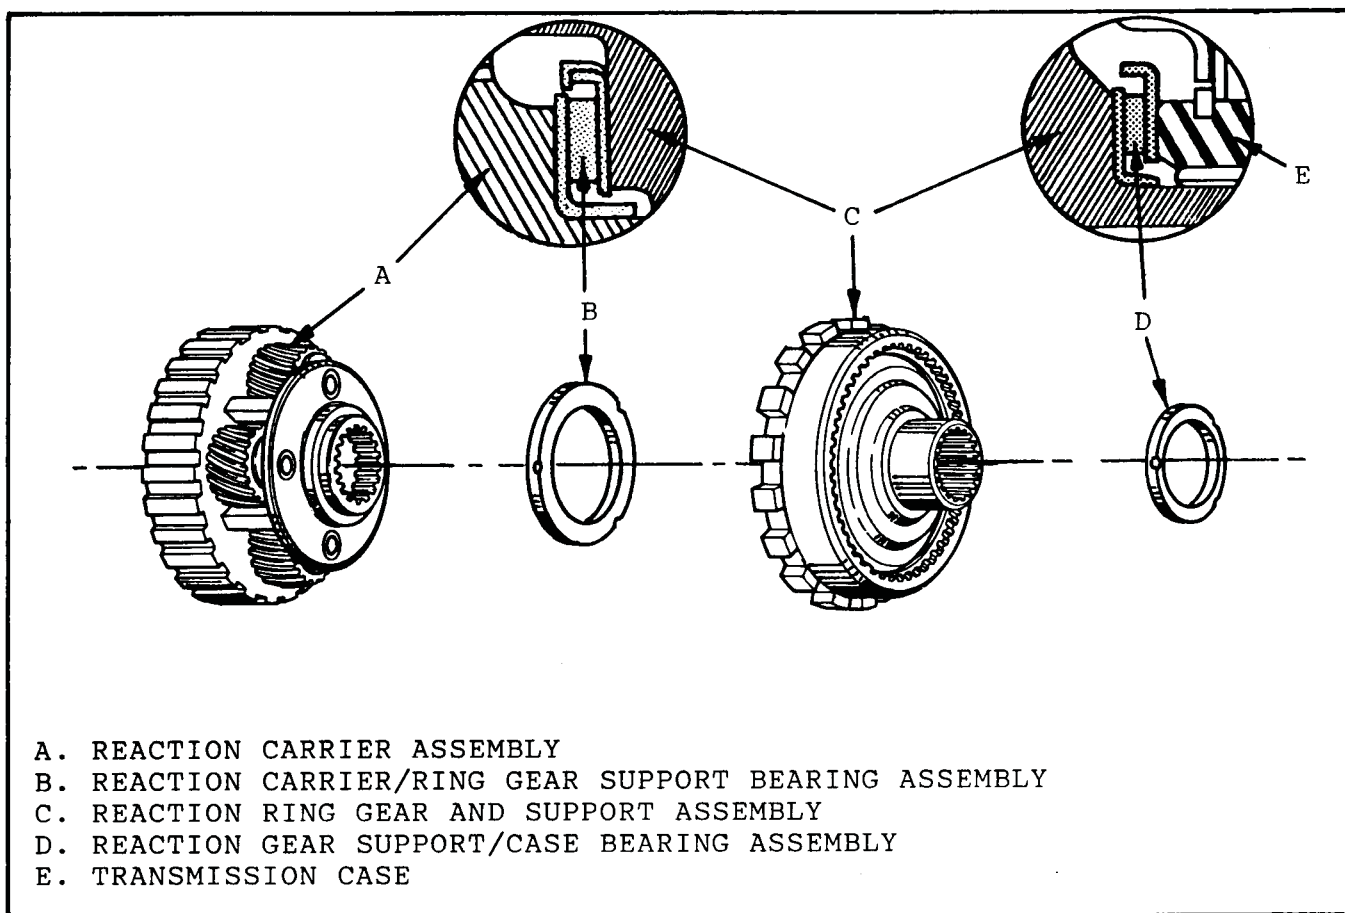

Figure 62
2. Install bearing on back of reaction ring gear support as shown in Figure 62, (Retain with a light coat of petrolatum), and install in case.
3. Install thrust bearing into front side of ring gear support as shown in Figure 62.